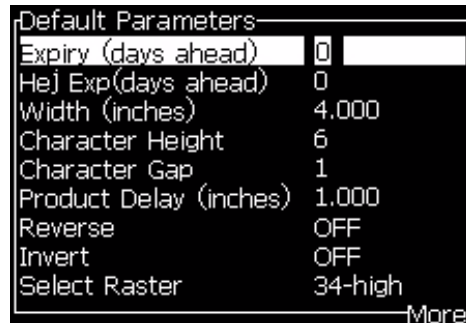

Figure 5-10: Default Parameters Dialog Box
The different parameters that are available (*Messages > Default Parameters*) are shown in Table 5-10, and Figure 5-10 on page 5-25.
- 2 Select the *Default Parameters* (Figure 5-10 on page 5-25) to edit the values.